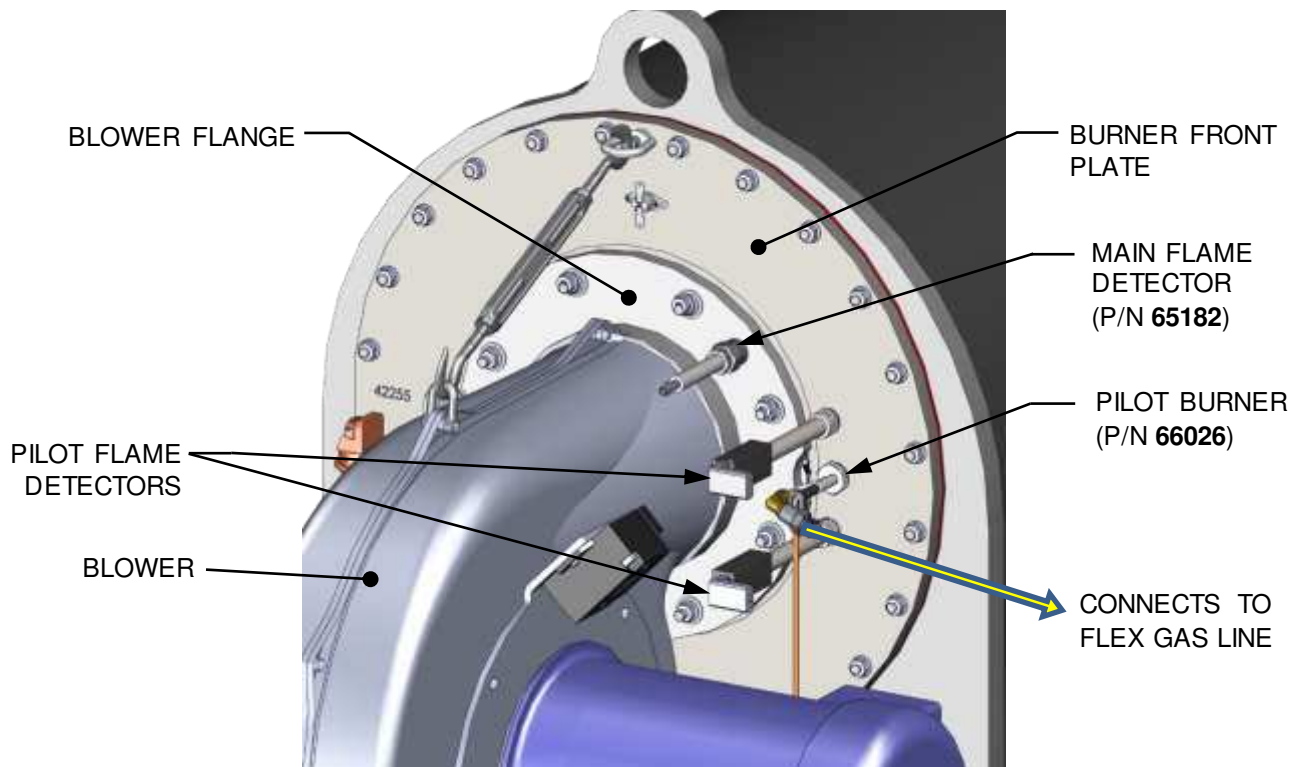

Figure 8-2: Pilot Burner and Pilot Flame Detectors (BMK5000/6000)
The BMK5000 & 6000 Main Flame Detector (P/N **65182**) is located on the Blower Flange near the top of the unit. There are also two (2) optical Pilot Flame Detectors mounted on the Burner front plate (see Figure 8-2, above).